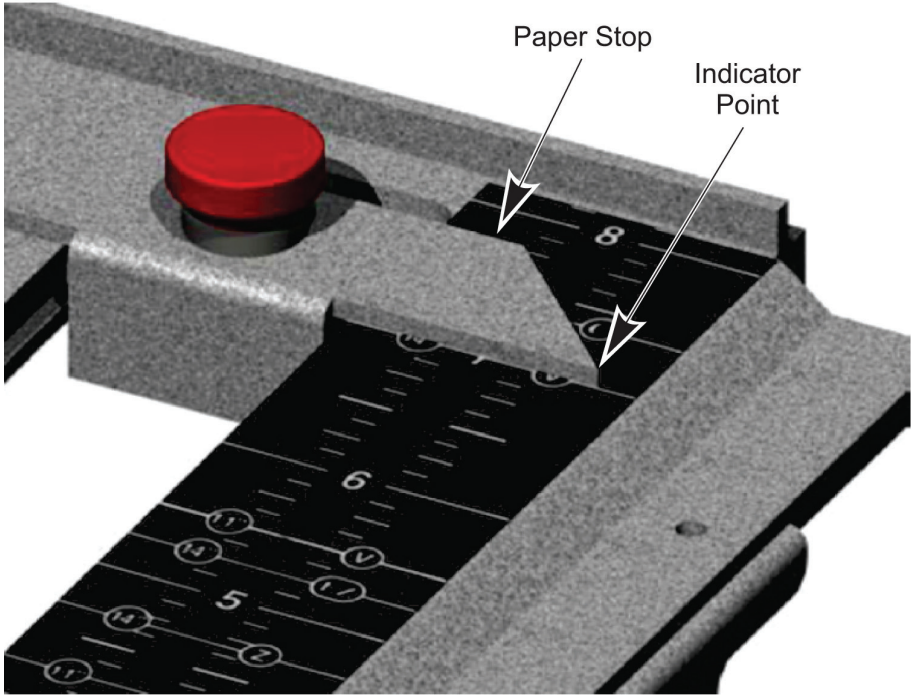

Figure 9: Paper Stop Alignment
3. Line up the tips on both sides of the paper stop with the appropriate line on the scale so that the appropriate white line on the scale is just visible [see Figure 9].